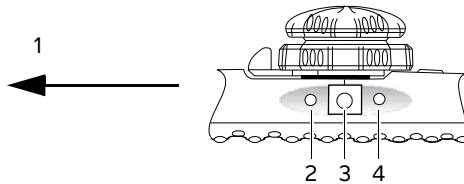

Figure 2-7 Scan plane rotation controls
The scan plane rotation is driven by a motor in the transducer handle and is controlled by buttons on the handle (see Figure 2-7).
Press the Biplane button (the center button) on the endoscope handle. See Figure 2-7 on page 2-9.
- 3 Press the scan plane control buttons on the handle to rotate the scan plane counterclockwise (0° to 180°) and clockwise (180° to 0°). See Figure 2-7 on page 2-9.